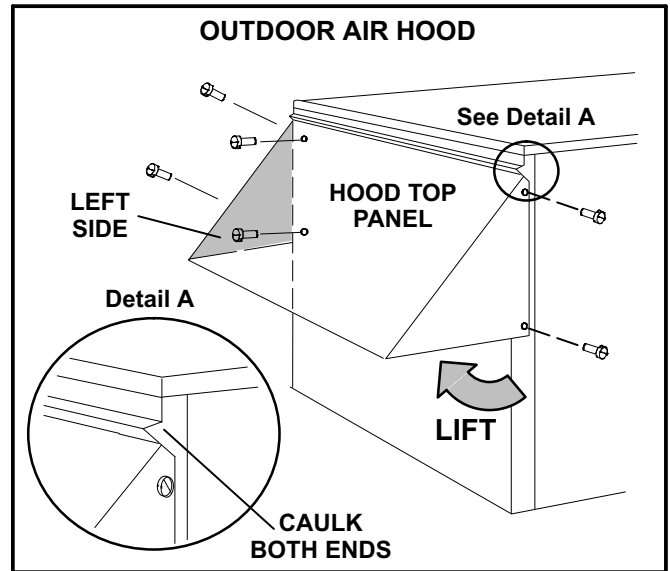

FIGURE 8
- 3- Lift (rotate) the bottom of the hood top panel and attach left side to hood top panel. See figure 8.